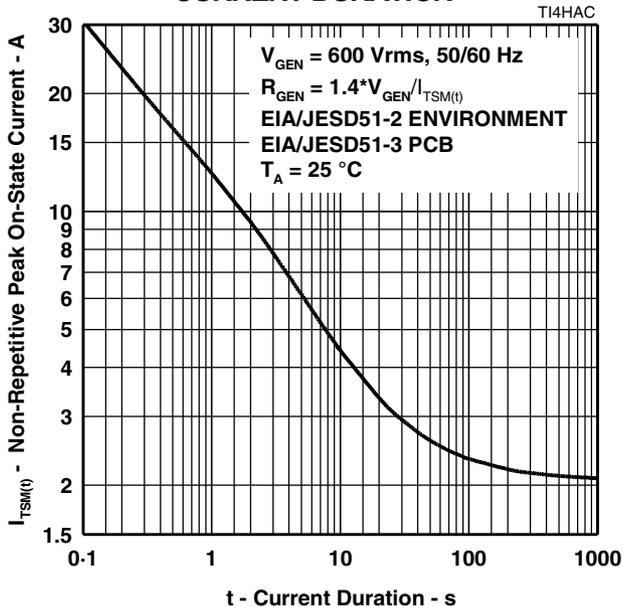

Figure 8.
5. EIA/JESD51-2 environment and EIA/JESD51-3 PCB with standard footprint dimensions connected with 5 A rated printed wiring track widths. See Figure 8 for the current ratings at other durations. Derate current values at  $-0.61\text{ }^\circ\text{C}$  for ambient temperatures above  $25\text{ }^\circ\text{C}$
The protector can withstand currents applied for times not exceeding those shown in Figure 8. Currents that exceed these times must be terminated or reduced to avoid protector failure. Fuses, PTC (Positive Temperature Coefficient) resistors and fusible resistors are overcurrent protection devices which can be used to reduce the current flow. Protective fuses may range from a few hundred milliamperes to one ampere. In some cases it may be necessary to add some extra series resistance to prevent the fuse opening during impulse testing. The current versus time characteristic of the overcurrent protector must be below the line shown in Figure 8. In some cases there may be a further time limit imposed by the test standard (e.g. UL 1459 wiring simulator failure).